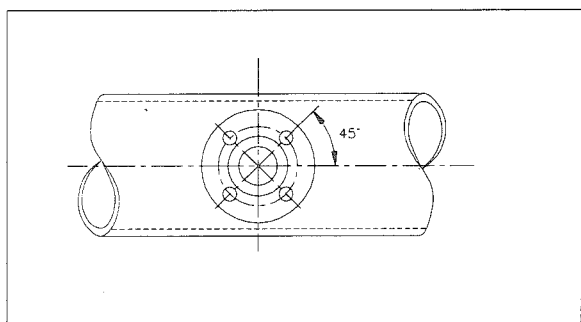

Fig. 10
2. Tack the mounting stud onto the pipe leaving a clearance of 1-2mm. The bolt holes of the flange must be at 45° angles to the pipe axis (see Fig. 10)